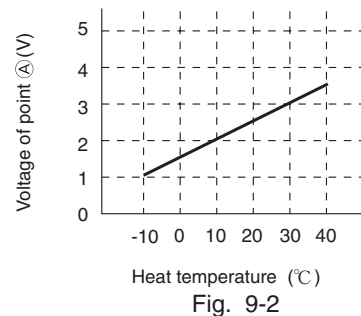

Fig. 9-2
- (1) Preheating
- (2) Low-temperature defrosts at cooling and dehumidification operation time.
- (3) Not working of reversing valve or detection of opening of heat exchanger thermistor is controlled.
According to heat exchanger temperature, the voltage of point (A) becomes as it is shown in Fig. 9-2.